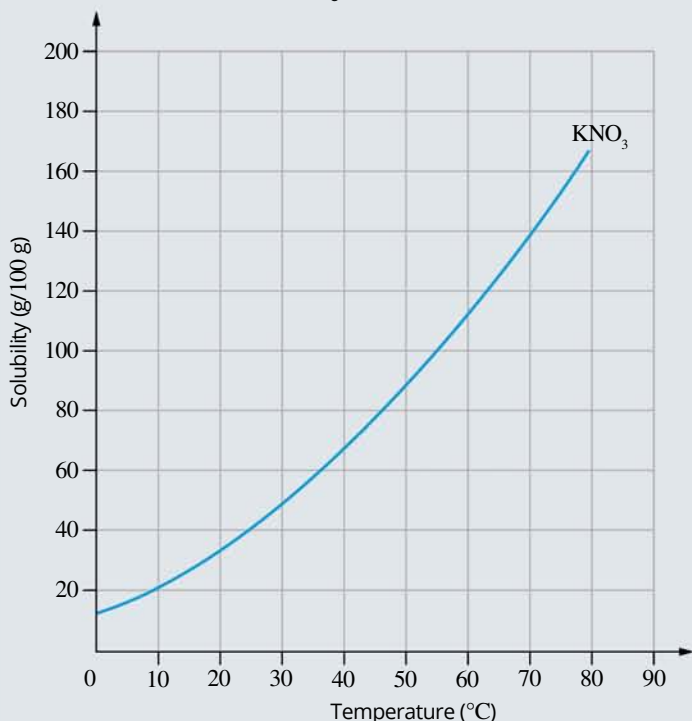

FIGURE 14.6.2 Solubility curve for potassium nitrate.
- 20 The following questions refer to the solubility curve of potassium nitrate (KNO_3) shown in Figure 14.6.2.